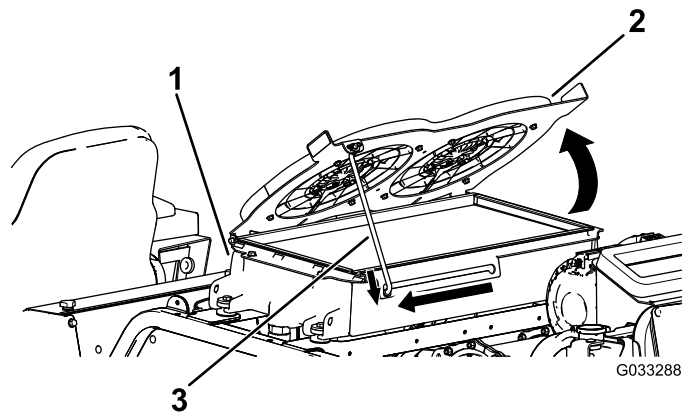

Figure 121
2. Pivot the hydraulic-cooling fans upward and lock the prop rod into the notch (Figure 121).